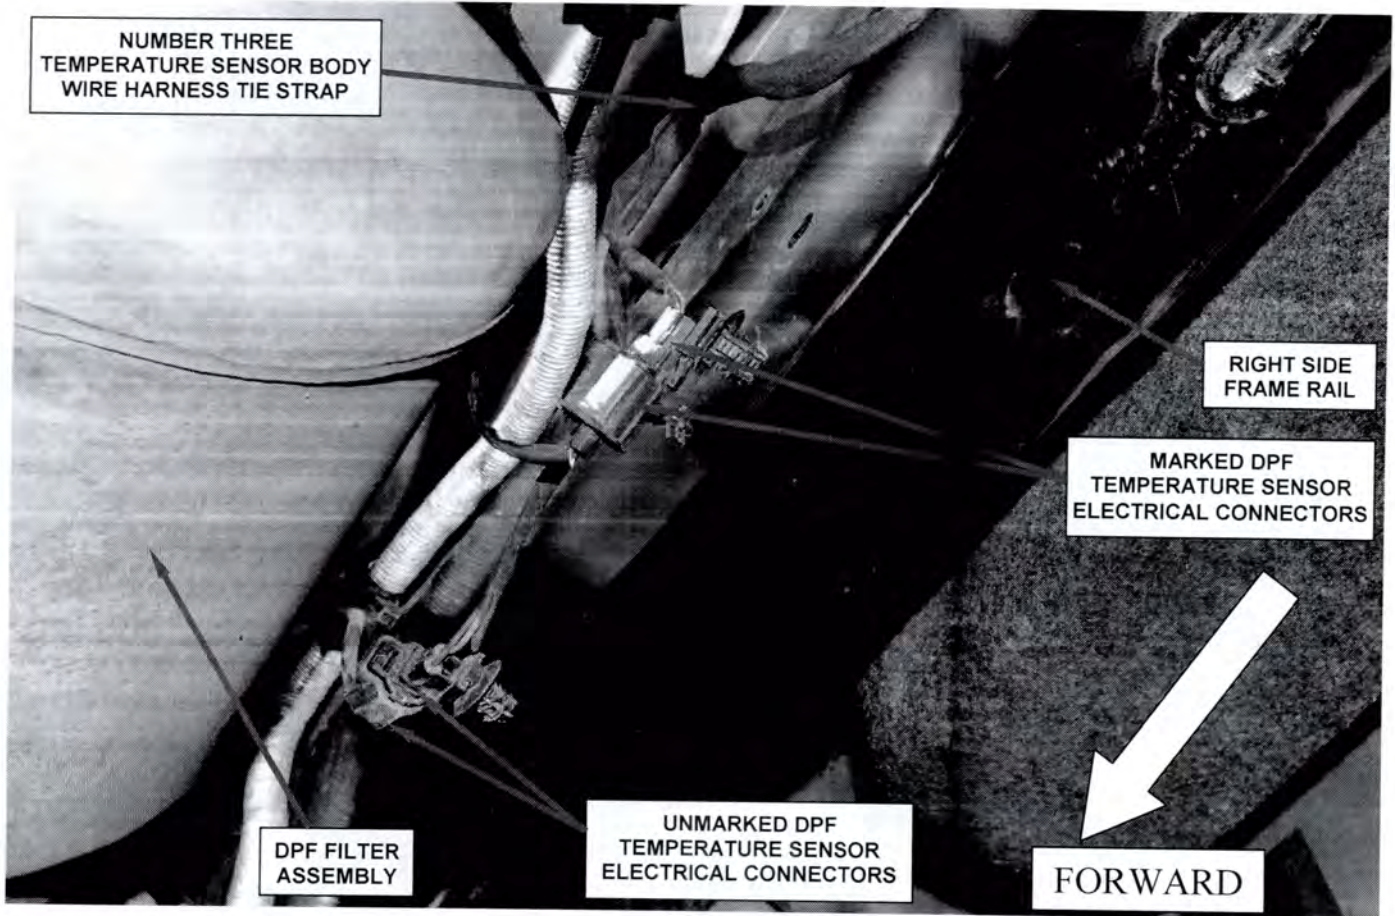

Figure 4 – Detach Both DPF Temperature Sensor Electrical Connectors from the Frame Rail
9. Carefully detach the two DPF temperature sensor electrical connectors from the frame rail (Figure 4).
10. Detach the Christmas tree tie strap from the wire harness for the number three DPF temperature sensor electrical connector wire harness (Figure 4).